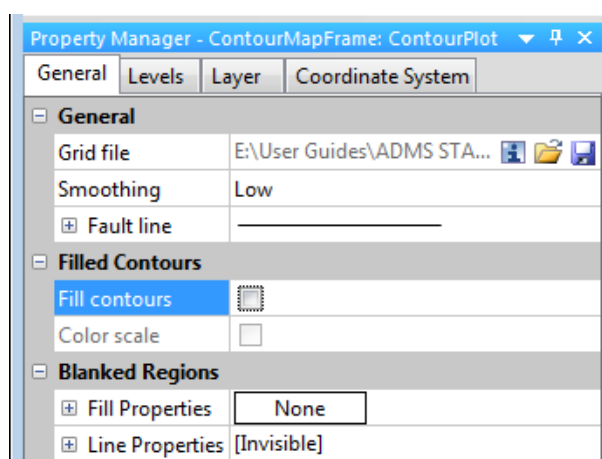

Figure 7.19 - Example 2: the **General** tab in the **Surfer Properties Manager** window
Step 3 In **Surfer**, in the **General** tab of the **Properties Manager** un-tick **Fill Contours** (Figure 7.19). If you cannot see the **Properties Manager** go to **View, Managers, Property Manager**.